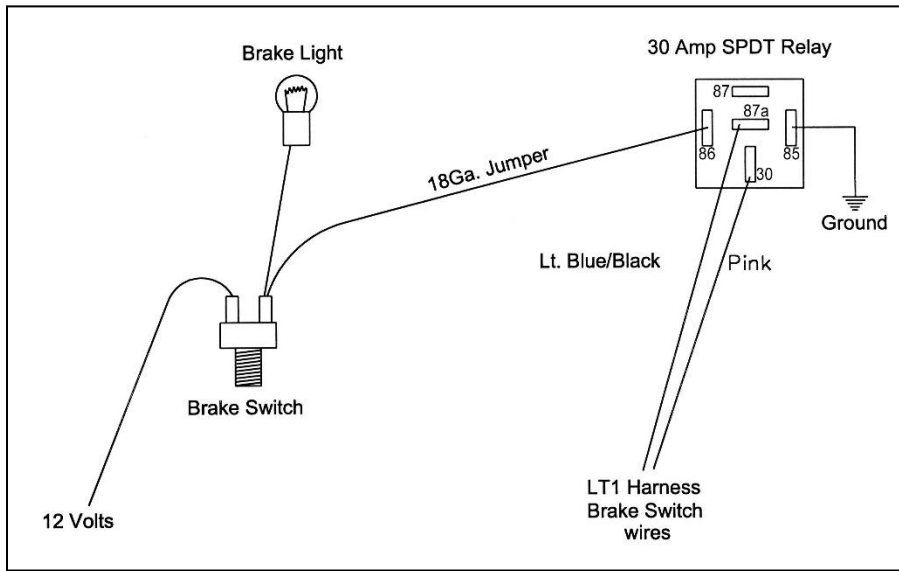

FIGURE 6.3 Brake Switch Relay
- G. If your vehicle has a pressure type brake switch, you may use a relay as shown in Figure 6.3. The relay must be a **SPDT Relay** and wired correctly or it could result in a dangerous situation with the vehicle. The torque **converter may not unlock**.